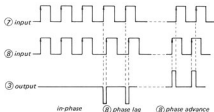

Fig. 19
Phase comparison is carried out at the leading edge of the pulse. (Refer to Fig. 19)
As shown in Fig. 19, when the phase of input ⑧ is lagging, the output is low (0) level. When the phase of input ⑧ is advanced, it will be high (1) level.